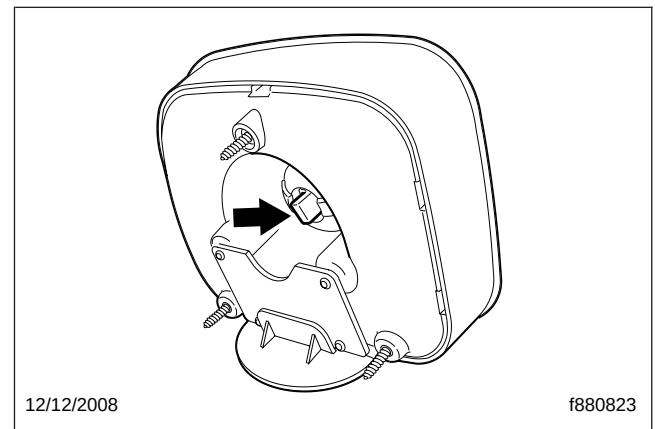

Fig. 3, Mirror Locking Tab
8. While holding the mirror glass in place, use a pair of pliers to pull out on the locking tab at the back of the mirror, then rotate the tab 90 degrees in either direction to unlock the glass assembly; see Fig. 3. Remove the glass assembly, using care not to lose the middle sphere.